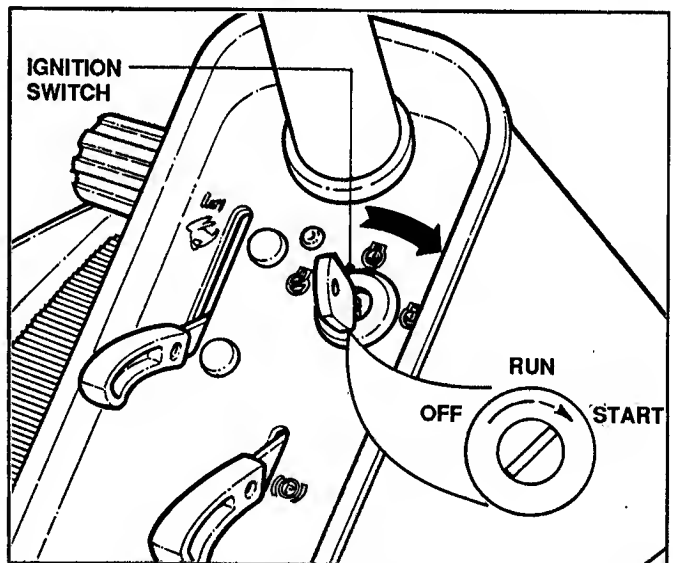

FIGURE 2.11
6. Turn key to the "START" position until engine starts. See Figure 2.11.
2. Turn key to "RUN" position. Refer to Figure 2.11.